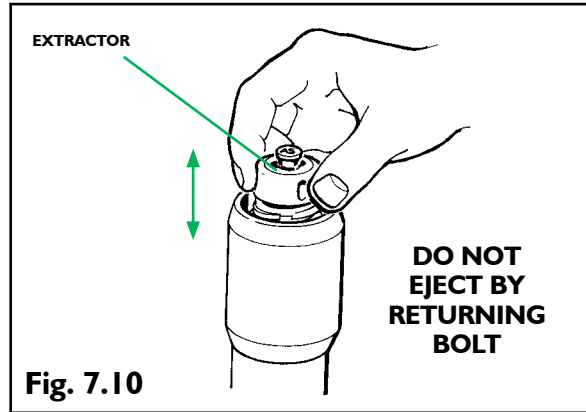

Fig. 7.10
- 5.2 Pull the extractor up and then push back down (See Fig. 7.10)